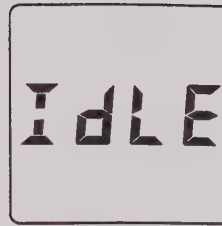

Fig. 13
6. IDLE MODE: To conserve power in the event that the meter is accidentally left on for more than five minutes, the meter will go to a low-power IDLE state, and the word IDLE will appear on the display, as in Fig. 13.